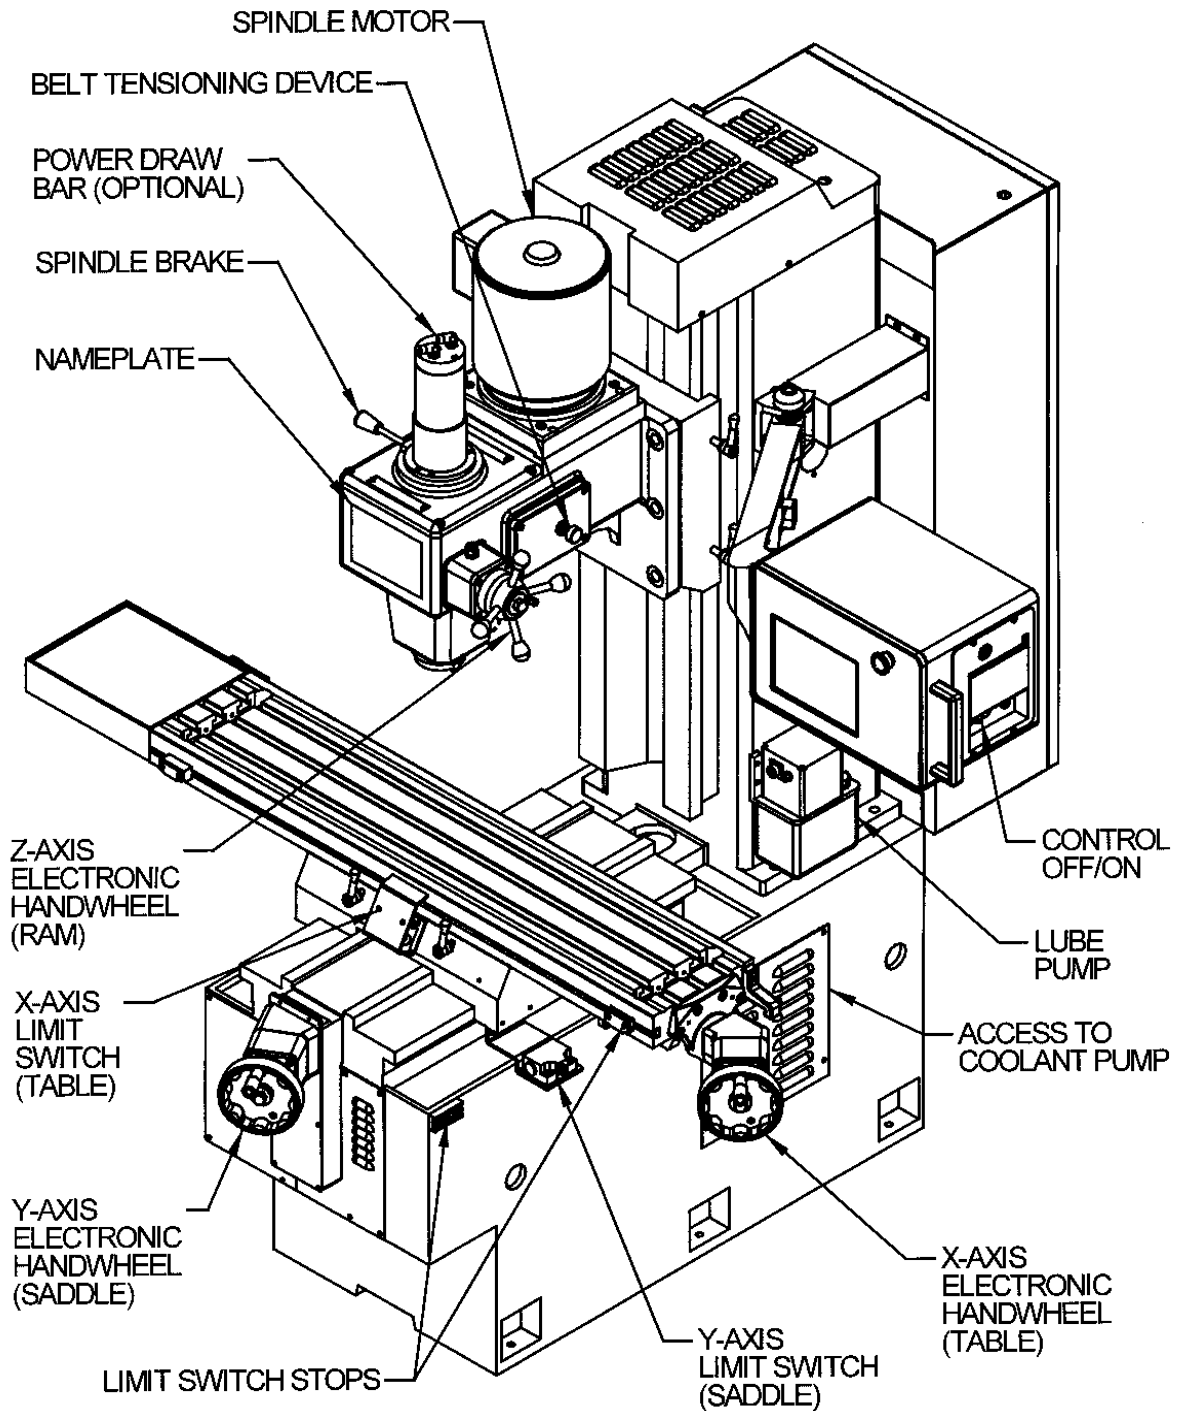

FIGURE 3.4.1 The TRAK DPMV Series machine overview
3.4 Machine Specifications (See Figures 3.4.1 and 3.4.2)